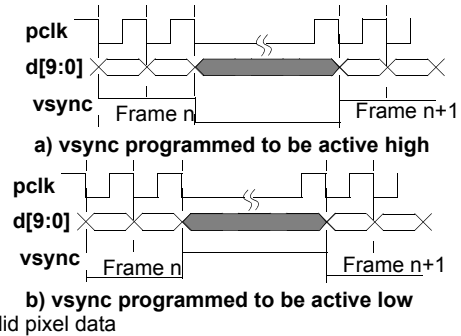

Figure 37. *vsync* in Level Mode
- Level mode should be used when the pixel clock, *pclk*, is programmed to operate in *free running mode*. In level mode the *vsync* output pin will go to the specified level (high or low) at the start of each frame and remain at that level until the last pixel of that row in the frame is placed on *d[9:0]* as shown in Figure 37. The *vsync* level is always synchronized to the active edge of *pclk*. The *vsync* pin is put into level mode by setting the *VsyncMode* bit of the *DVBUSCONFIG1* register to a logic 0. The active level of the *vsync* pulse is programmed using the *VsyncPol* bit of the *DVBUSCONFIG1* register.